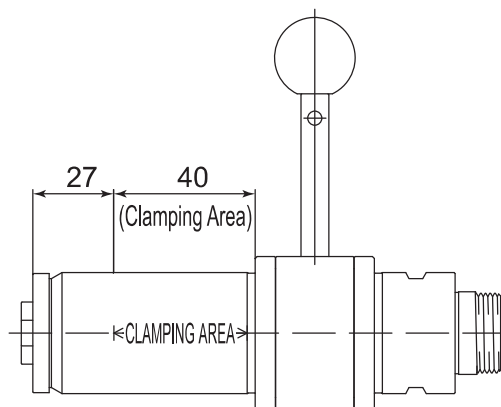

Fig. 14
- ① When mounting a spindle, refer to the Clamping Area etched on the spindle. (Fig. 14)